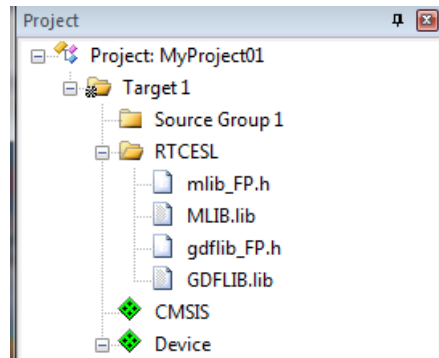

Figure 1-23. Project workspace
8. Now, all necessary files are in the project tree; see Figure 1-23. Click Close.